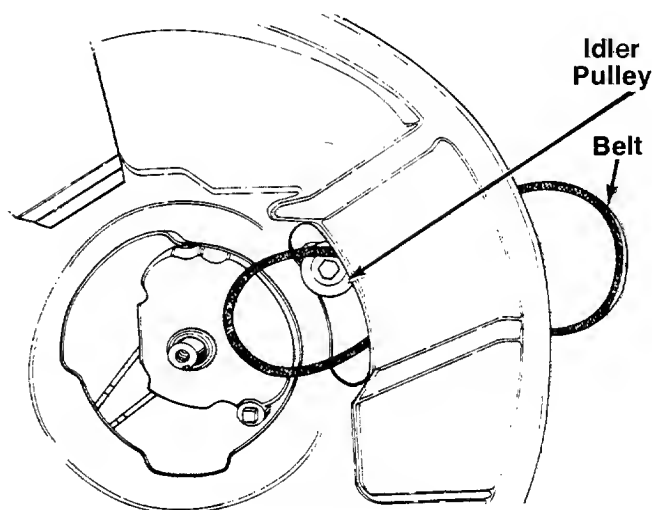

FIGURE 30.
- A. Push the idler pulley up out of the way as shown in figure 30.
- B. Slide the belt in from the rear of the deck, and place it around the transmission pulley. See figure 30.